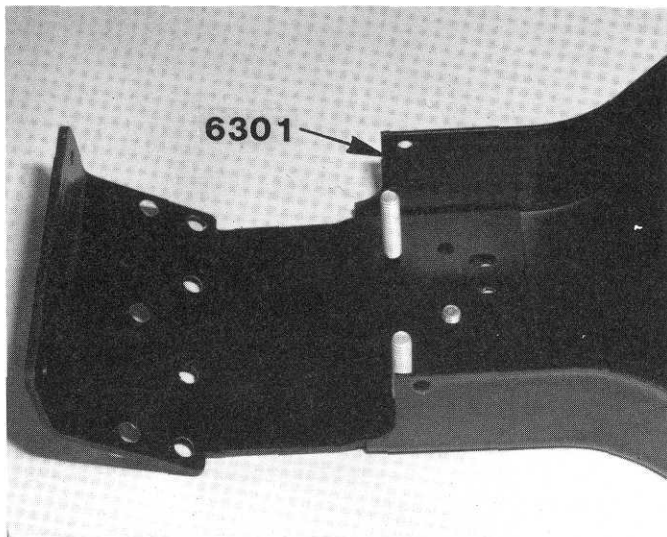

Fig. 2
□ **Fig. 2** Take the black aluminum chassis #6301 and install the nose piece, as shown, with the #2 Phillips screwdriver. Note that all the chassis screws are aluminum and can be easily damaged by a worn screwdriver. Be sure yours is in good condition.